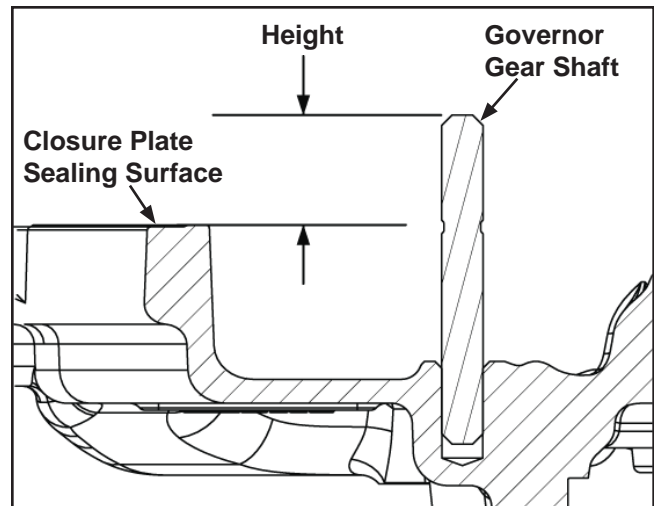

Figure 11-14. Install Governor Gear Shaft.
1. If the shaft was removed in disassembly, use an arbor press to install the new shaft to a height of 16.025 mm (0.6309 in.) from the closure plate sealing surface. See Figure 11-14.